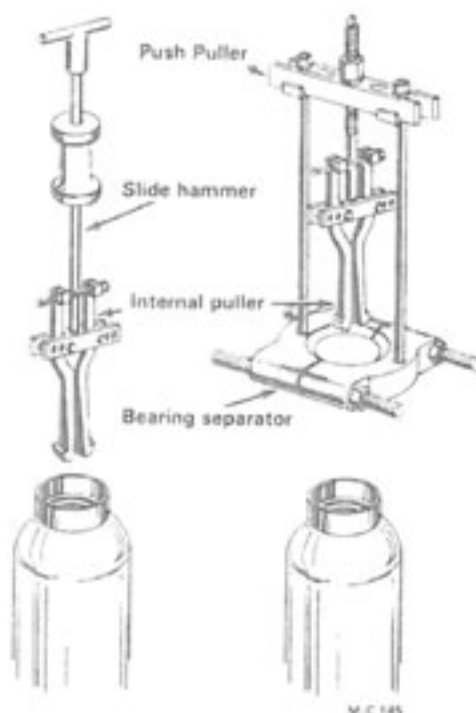
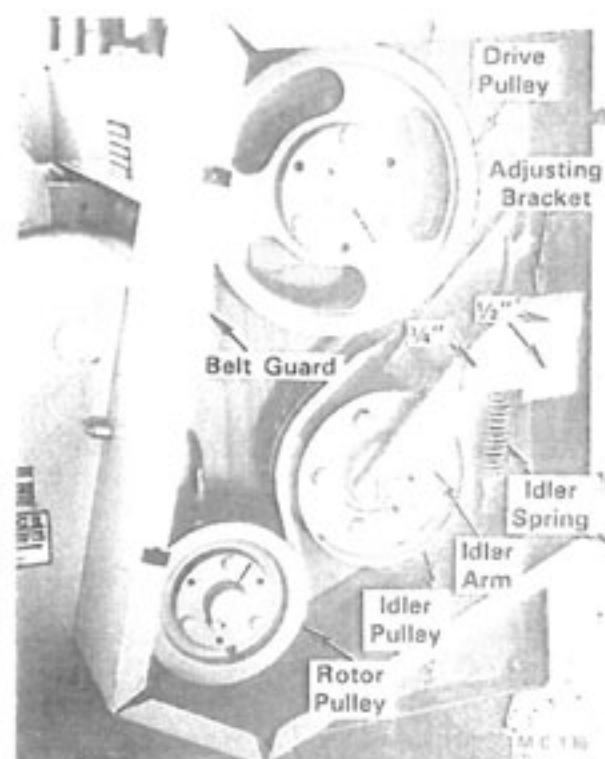

Figure 27
Figure 35 - Model 8HD Shown
1. Heat the end of the gauge roller with a torch and use an internal bearing puller, like those shown in Figure 27, to remove the bearing from the end of the gauge roller.
2. Remove the two 1/2" and one 3/4" capscrews in the adjusting bracket and remove the idler arm and pulley assembly see Figure 35.
3. Remove cotter pin (12), castellated nut (13) and idler bolt (3) from the idler arm (2).
4. Use an internal puller, see Figure 27, page 20, to remove the bearing seals (6) and bearing cups (8).
5. Pack the new bearing cones (7) with a good grade of wheel bearing grease. Press the bearing cups (8) into the hub, install the bearing cones (7) and press in the bearing seals (6).
6. Put a hub spacer (5) on each side of the hub assembly and place the assembly in the idler arm (2). Install idler bolt (3) and castellated nut (13). Tighten the nut just enough to hold the assembly together.
7. Put the idler pivot bushing (ref. 33, page 29) in the idler arm and install the idler pulley assembly and adjusting bracket, see Figure 35. Do not tighten the two  $\frac{1}{2}$ " and  $\frac{3}{4}$ " capscrews until after the idler pulley alignment has been checked.